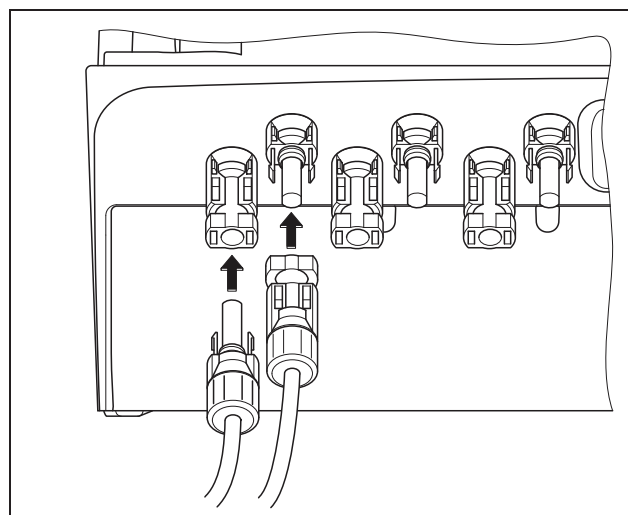

Fig. 19: Connecting the PV string
- Insert the PV string plugs until they engage in the corresponding counterparts on the inverter (figure 19).